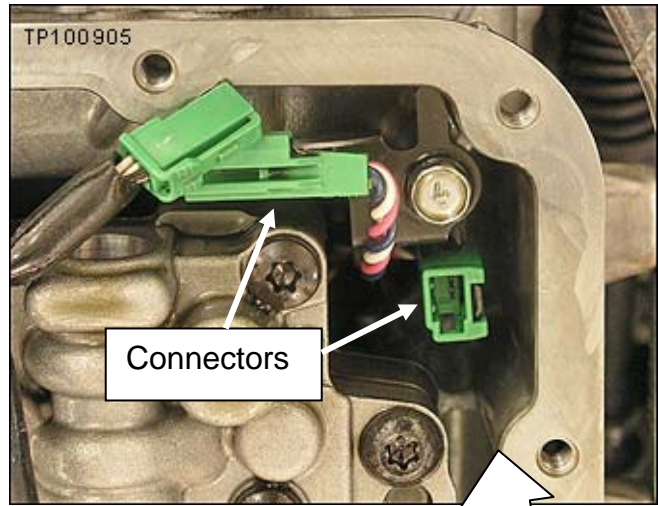

Figure 2
5. Disconnect the 2 harness connectors shown in Figure 2.